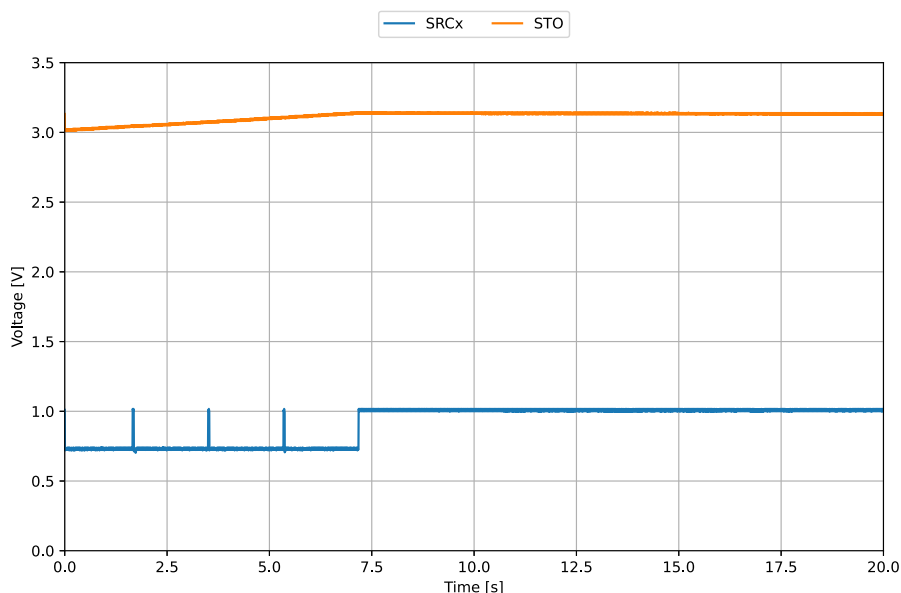

Figure 6: Storage element thermal protection behavior
- When **R_{TH}** is hot enough, above 45°C (near 7 s on Figure 6), the AEM13920 thermal protection is triggered: